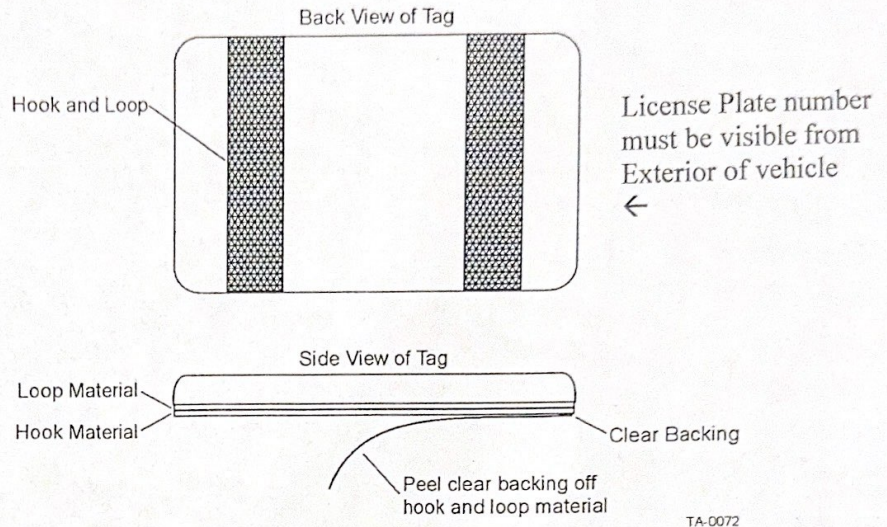

Figure 3-19 Hook-and-Loop Material on Interior Tag
3. Remove the clear backing from the two strips of hook-and-loop material on the back of the tag (Figure 3-19) or from the double-sided tape.